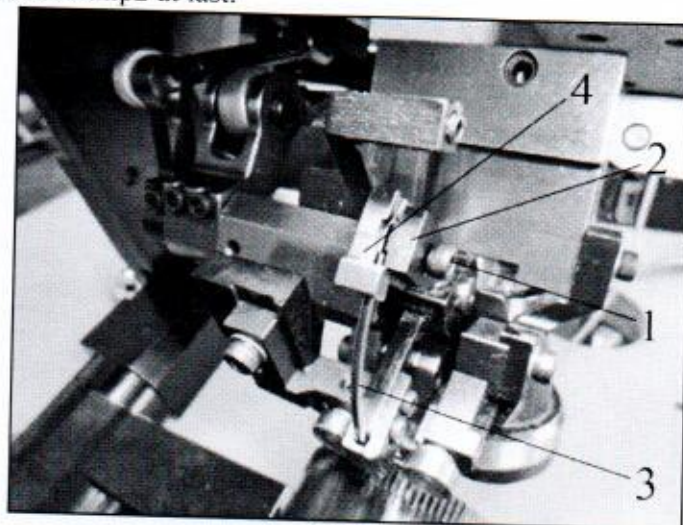

Fig.5
4.1 Needle replacement (Fig.5)